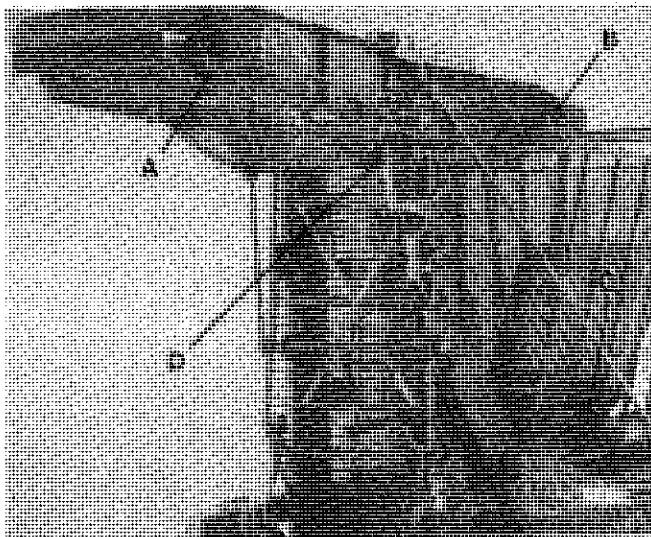

FIGURE 11 - ELECTRIC CLUTCHES
Beets are diverted to tank or truck by use of two electric clutches (see figure 11). One on the outer end of the truck elevator (A) and one on the outer end of the tank elevator (B). The tank unloading conveyor is operated by a hydraulic motor (C).